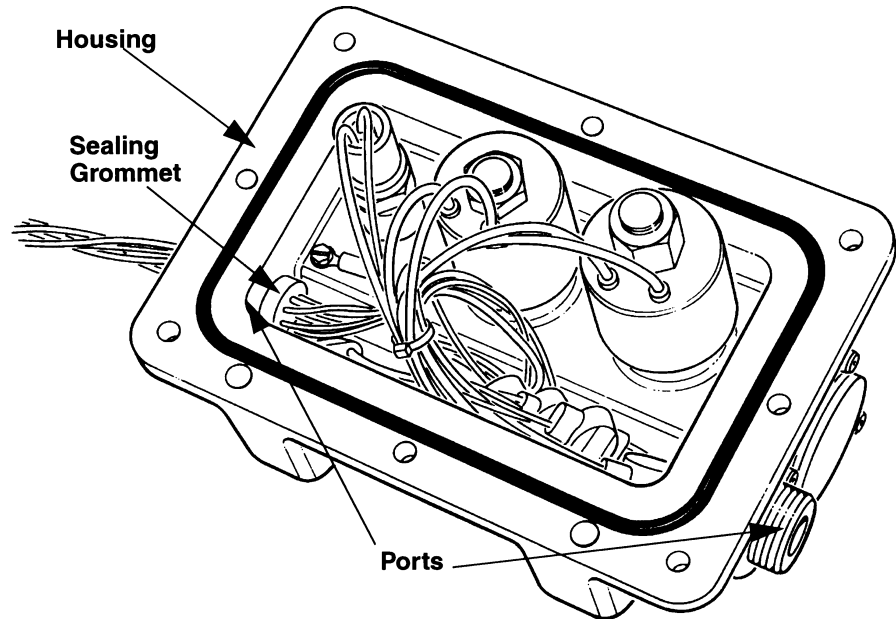

Figure 5. Controller with Grommet Installed
- e. Thread the wires through the opposite conduit port. Push the sealing grommet into the port until the shoulder of the grommet is against the housing (see Figure 5).